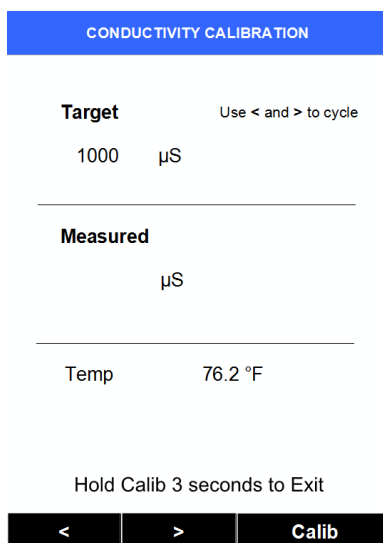

Figure 11
- 6) Use the > key to cycle to the desired calibration, e.g. 1000 μS . The Standard Conductivity selections are 500, 1000, 2500 or 5000 μS . For other conductivity values the User Defined calibration mode must be used. With each press of >, various elements of the display will update, such as the calibration title, the type (“Target”), and the black bar. When the 1000 μS calibration is selected the screen will appear as in Figure 11.